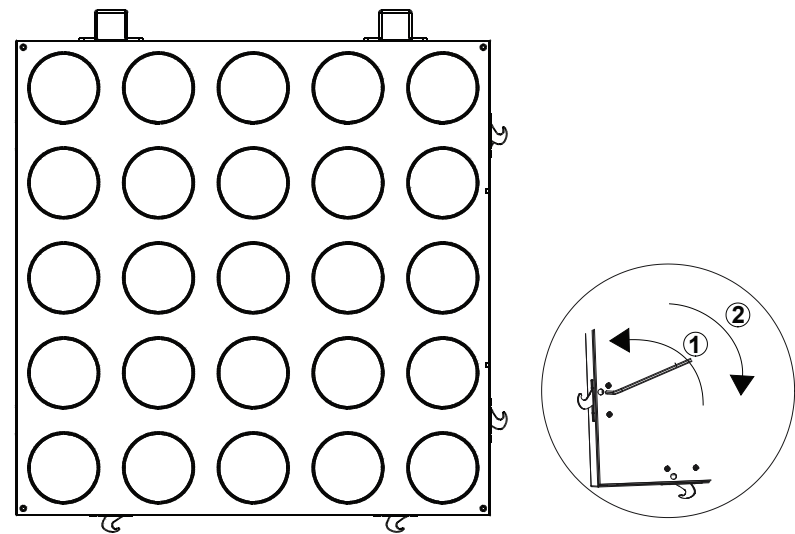

Figure 1
Secondly, use L type Hexagon wrench to counter-clockwise rotate connection lock to the end until lock tongue returns back, for direction please see arrow ① showed in figure 1, and the next step, use Hexagon wrench clockwise rotate connection lock to the end, see arrow ②.